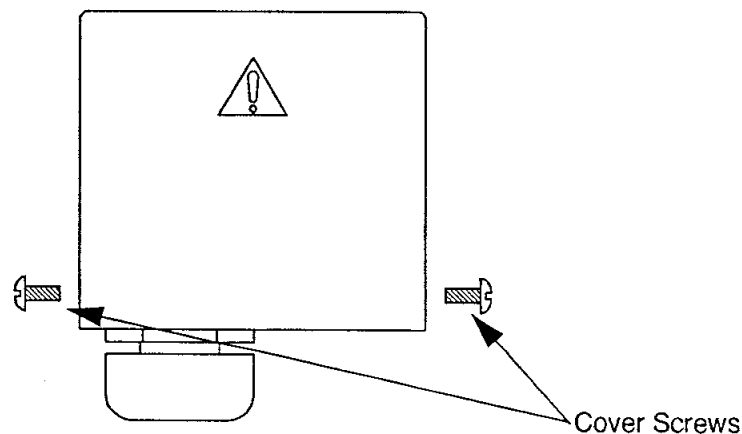

Figure 3-1: Electrical Terminal Enclosure with Cover in Place
2. Disassemble the electrical terminal enclosure cover, mounted on the compressor rear panel, as shown in Figure 3-1. Remove the two screws securing the cover and lift it off.